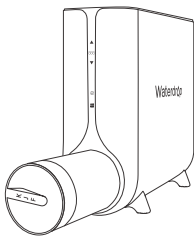

Figure 24
- (3) Install the new filter. Insert the new one into the filter barrel, with the filter handle perpendicular to the display bar (Figure 24) . Then rotate it 90° clockwise until the filter handle is in line with the display bar (Figure 25).